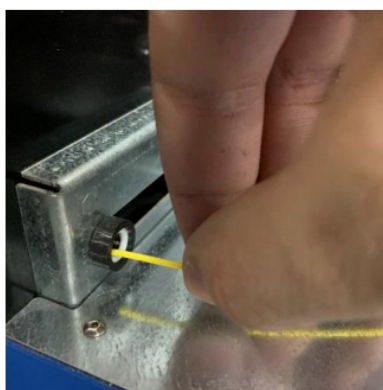

Figure 16: Feeding filament through the Spreader Guide.
5. Once the output filament has stabilized you will hear another chime and a prompt on the UI screen saying “Spooler Ready”. The fan speed will reduce to allow the filament to soften to a point that it is able to start spooling. Using the yellow handle snips that come with every ProtoCycler+, snip the excess filament that has been extruding off the front side of your UI. Now feed the filament through the spreader guide. See Figure 16 for reference.